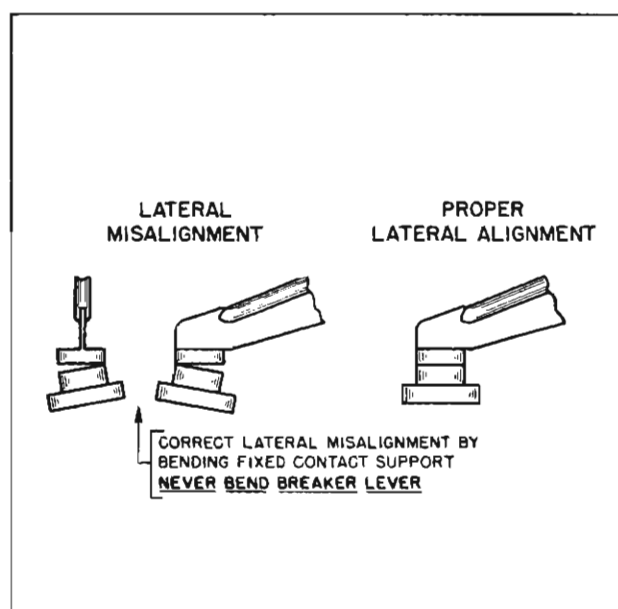

Fig. 6—Alignment of Points
- Check alignment of distributor points with points closed (fig. 6). Align new points where necessary, but do not attempt to align used points. Instead, replace used points where serious misalignment is observed.